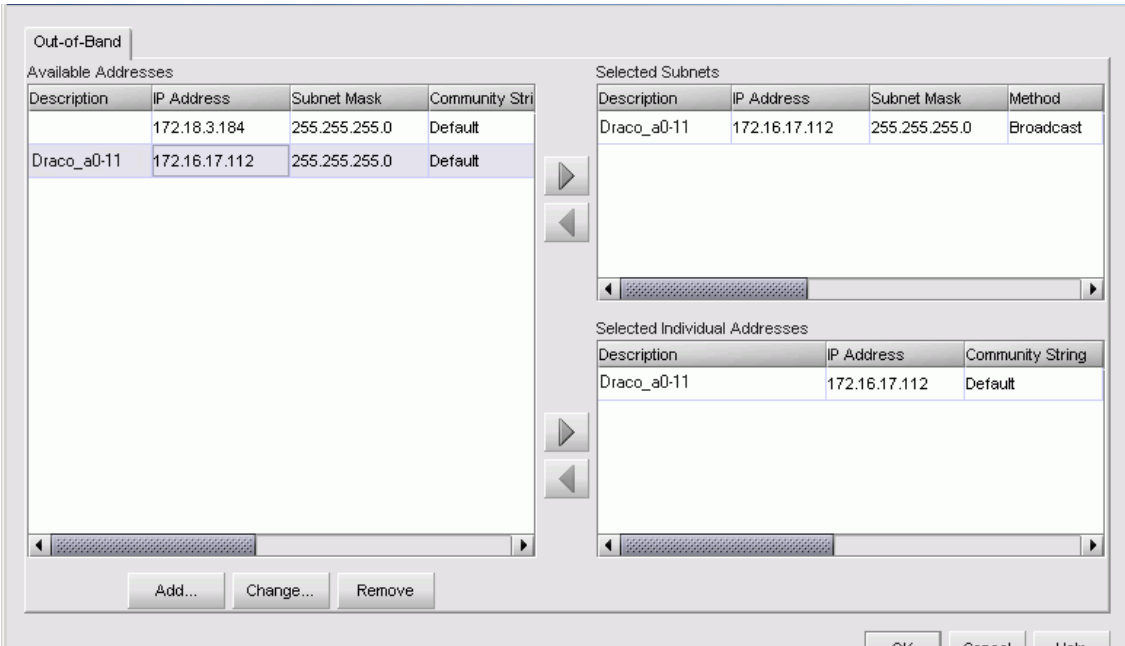

Figure 53: Discover Setup page
- c. At the HAFM application, choose Discover> Setup. The Discover Setup page displays (Figure 53).
- b. Delete the icon representing the reset switch. At the HAFM application, select **Setup** from the Discover menu. The Discover Setup dialog box displays (Figure 53 on page 121).